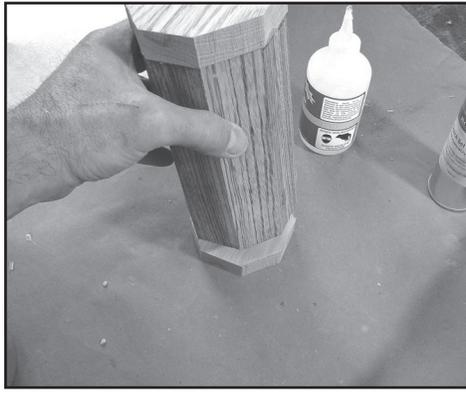

Fig. 8
8. Glue the pads onto each end of the blank using CA (cyanoacrylate) glue. Fig. 8.